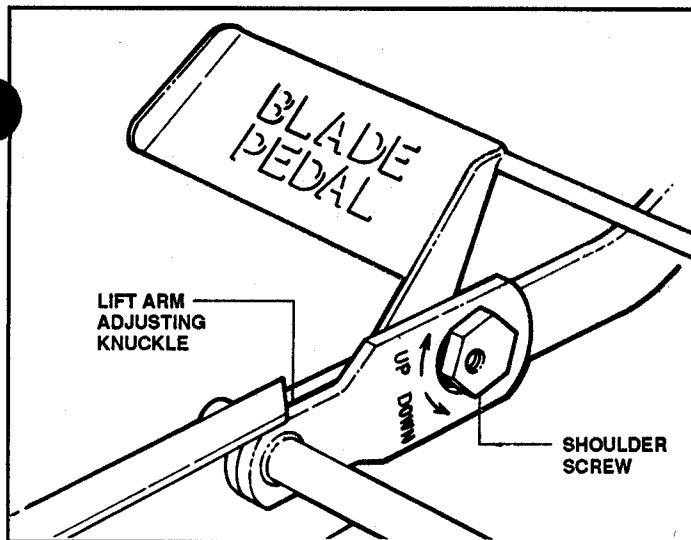

FIGURE 3.13
5. Adjust side-to-side level of mower deck by loosening shoulder screw on side of lift arm adjusting knuckle. See Figure 3.13.